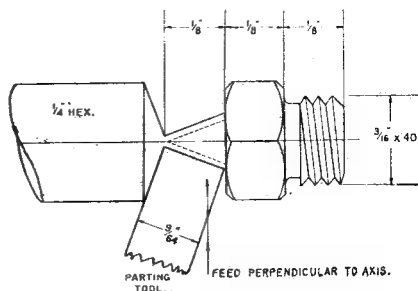

Fig. 12. Forming the jet
left a tapered pip $\frac{3}{32}$ in. at base (Fig. 12). Note the jet externally has $\frac{1}{8}$ in. of $\frac{1}{16}$ in. thread, $\frac{1}{8}$ in. of $\frac{1}{4}$ in. hexagon and $\frac{1}{8}$ in. of taper point. The parting groove is also the taper point. I prefer to do the reaming after parting off with the reamer in the three-jaw chuck and the jet in hand. This method is more sensitive and if the jet is larger than the reamer point it can be watched until sufficient projects to show that the desired size is reached. Set your micrometer to the jet size, poke the reamer between the jaws and however far it goes in with the taper edges touching the jaws it must project from the jet by that amount. With the jet reamed to size put it in the three-jaw and if a fuel jet round off the end with a smooth stone until a slight flattening round the hole is obtained. With a steam jet do not stone but insert the reamer and slightly open the mouth of the hole. This feature is essential for two reasons (1) the small amount of condensate which occurs after the trap will blow off sideways without blocking the jet (2) the expansion of the steam has the injector action of pumping a stream of air to draw fuel and support combustion. I cannot give exact measurements for the reverse